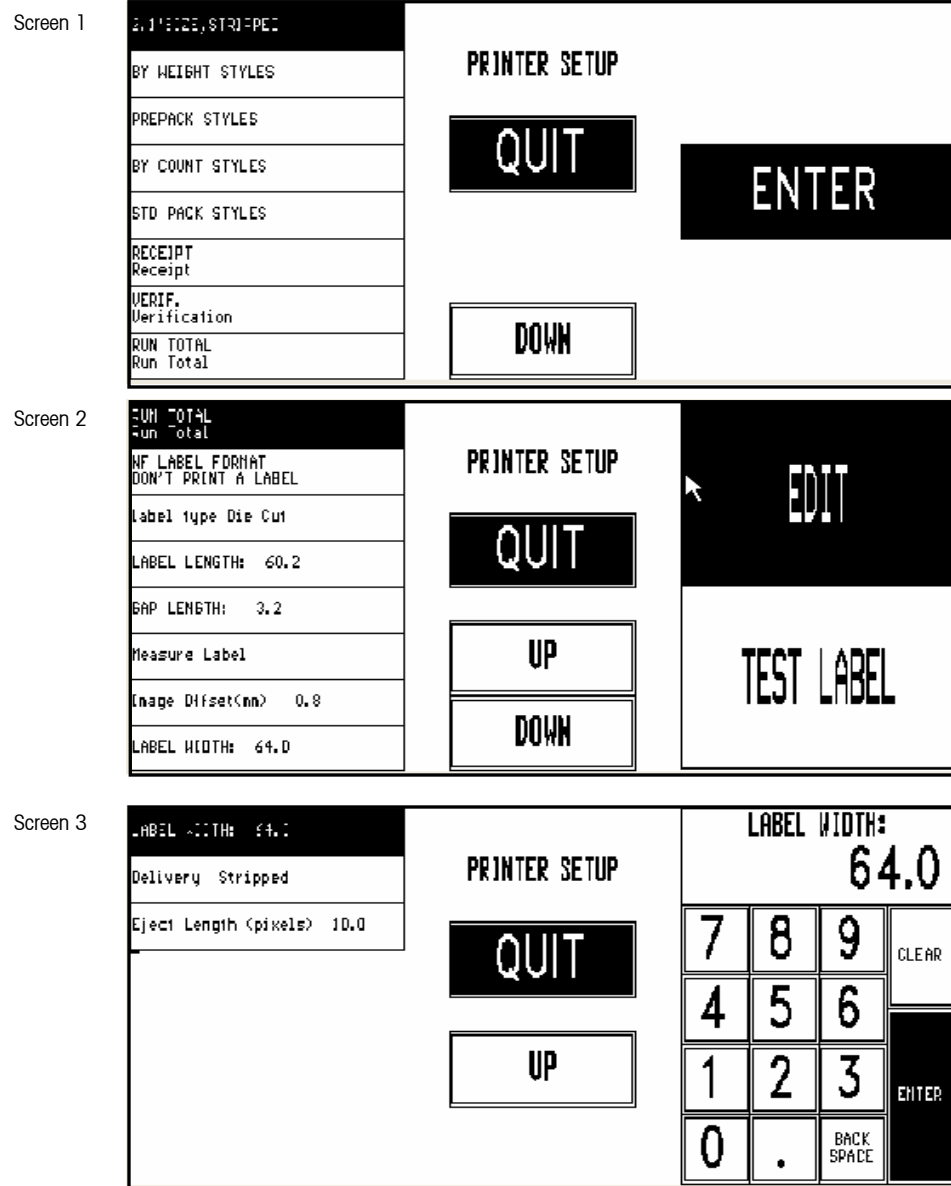
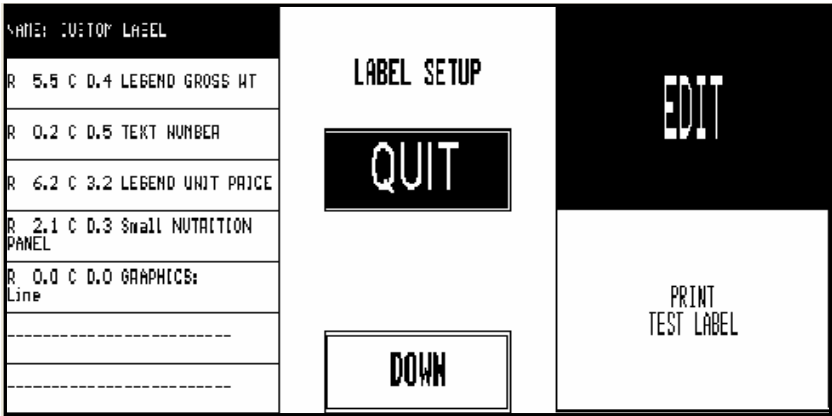

Figure 3-21: Printer Setup Screens 1, 2, and 3
Figure 3-22: Select a new Label Format or Print Test Label
To assign a label format to the default format (0), or one of the alternate formats (1-7), first select one of the label styles (BY WEIGHT STYLES, PREPACK STYLES, etc. shown on Screen 1 in Figure 3-21). Next, select the label style number you wish to edit (0-7 Figure 3-22), then touch ENTER to select a new label format from the format list.
Select Die Cut or Continuous labels. Die Cut labels are individual labels. Continuous is one continuous thermal strip that is printed and torn off one at a time. Continuous lengths can vary in length depending on the length of Extra Text or Nutrifacts. (Refer to Figure 3-21, Screen 2.)
Custom label lengths (in mm) can be entered here. When a certain default label size is selected, the default length for that label size will be automatically entered into this field. Lengths from 0 to 203 mm (7.9 in) are accepted. (Refer to Figure 3-21, Screen 2.)
TOLEDO® specified labels are 3.2 mm. Note: 0.0 mm is used for continuous strip labels. Gap Lengths from 0 to 99.9 are accepted. (Refer to Figure 3-21, Screen 2)
This selection will measure the die cut label in the printer and enter the measured value in the Label Length Field (Refer to Figure 3-21, Screen 2)
The Image Offset (in mm) is used to raise or lower the printed image on the label referenced to a point above the label. The range is 0.0 to 31.9 mm. The label length determines the upper limit. Shorter labels will have a lower upper limit. To raise the image on a label, lower the value. To lower the image on a label, increase the value. (Refer to Figure 3-21, Screen 2) The default for die cut labels is 2.2 and for continuous 0.
This function is used to set the label width (in mm). The default is 64 mm. The range is from 0.0 to 80.0 mm. The label format is centered based on this setting. Increasing the width will shift text to the left of the label. Decreasing the width will shift text to the right of the label. (Refer to Figure 3-21, Screen 3)
Stripped delivers the labels peeled from the liner, with the liner wound up on the take up roller. **Unstripped** delivers the label to the operator with the liner attached to the labels. In the unstripped mode, multiple labels can be preprinted and attached to the package later. (Refer to Figure 3-21, Screen 3)
The Eject Length (in mm) is used to adjust where the label stops after printing. The Adjustment range is from 0 to 6.4. The default for die cut labels is 5.2 and the default for continuous strip is 0. (Refer to Figure 3-21, Screen 3)